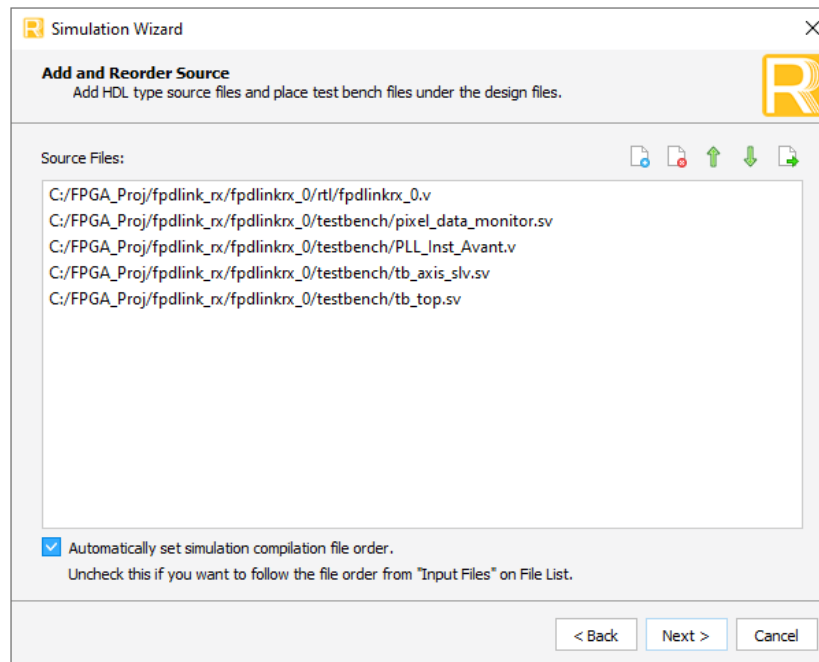

Figure 3.5. Adding and Reordering Source
4. Click **Next** to open the **Add and Reorder Source** window as shown in Figure 3.5.
| | <ul style="list-style-type: none"> Updated Figure 3.1. Module/IP Block Wizard, Figure 3.2. Configure User Interface of Selected OpenLDI/FPD-LINK/LVDS Receiver IP Core, Figure 3.3. Check Generating Result, and Figure 3.5. Adding and Reordering Source. Added attribute <code>eval/eval.pdc</code> and description This file provides the information on how to constrain the clocks in Table 3.1. Generated File List. Added <code>testbench/tb_axis_slv.sv</code> attribute and its description in Table 3.2. Testbench File List. Replaced the title from 3.2.1. Required Post-Synthesis Constraints to Constraining the IP and updated the section as per the actual clock. Changed the bullet information from When simulation finishes successfully, it generates log files for input and output data (input_data0.log and pixel_out0.log for Rx channel 0 and input_data1.log and pixel_out1.log for Rx channel 1, respectively). Compare these log files to check if simulation passes to When simulation finishes successfully, it generates log files for input and output data (input_data0.log and pixel_out0.log for Rx channel 0 and input_data1.log and pixel_out1.log for Rx channel 1, respectively) and "Simulation Pass/Fail" is displayed in the terminal in Running Functional Simulation section. Updated the title from Hardware Evaluation to IP Evaluation. Replaced LIFCL and LFD2NX devices with Lattice devices in IP Evaluation section. |